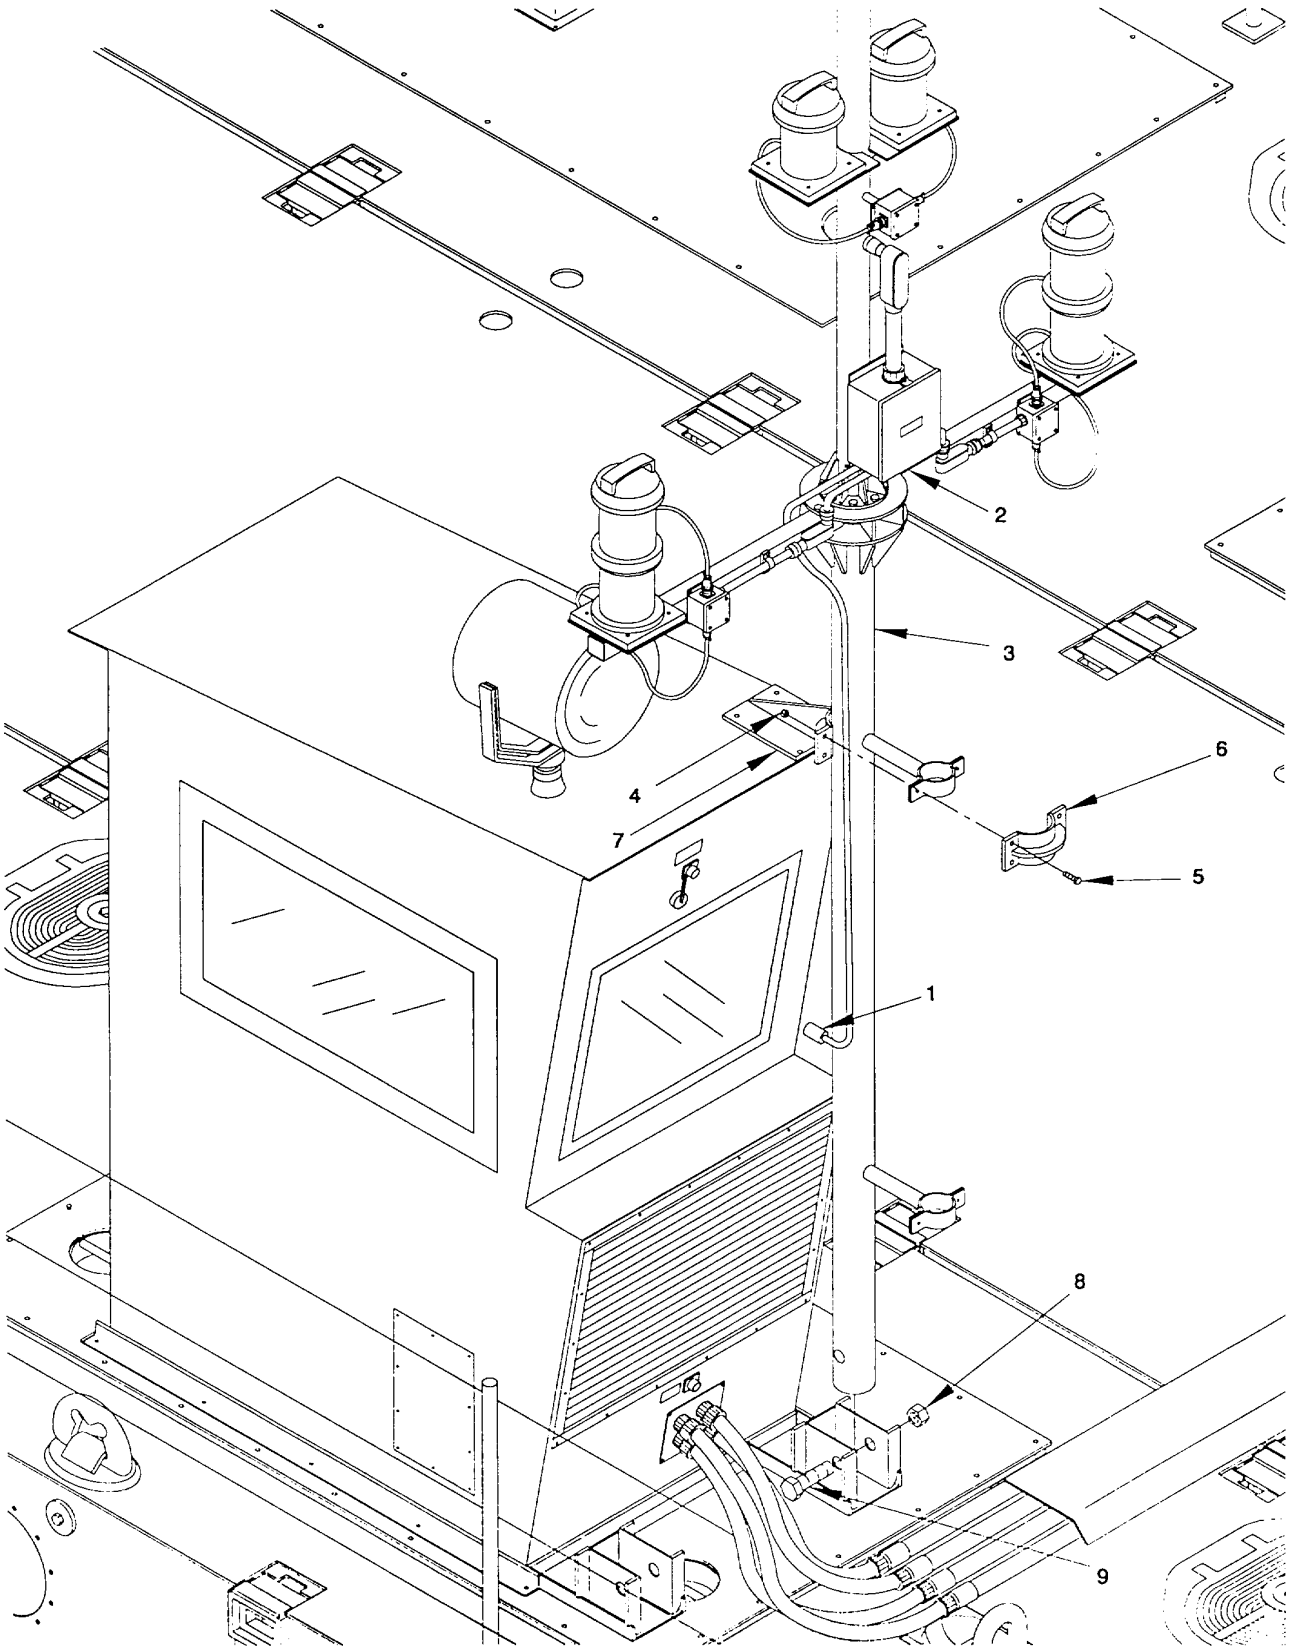

Figure 2-172. Navigation Mast, Remove/install.
- (1) Navigation Mast Assembly. (figure 2-172)
(5) Mast Assembly. (figure 2-172)